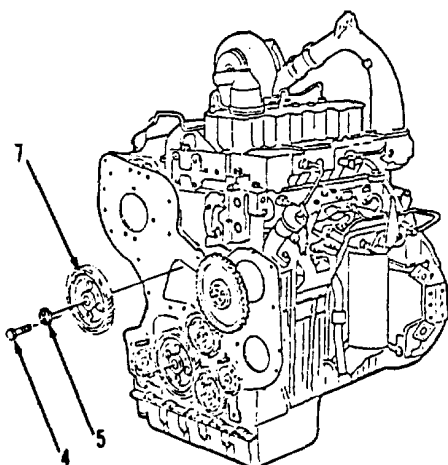

Figure 3-21.
4. Remove two bolts (4), plate (5) and gear (7, Figure 3-21).